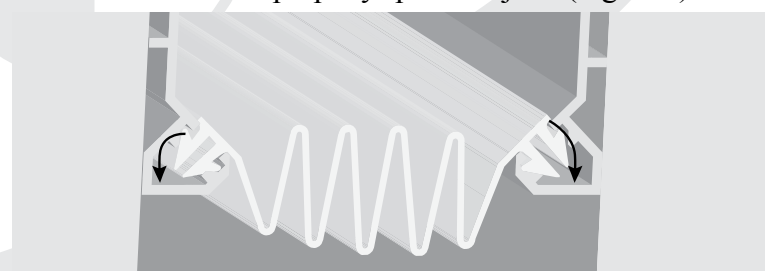

Figure 7—RW Water Barrier Placement
2. Insert the back seal arrows into their corresponding base member and lower base member channel so that the back seal properly spans the joint (Figure 7).